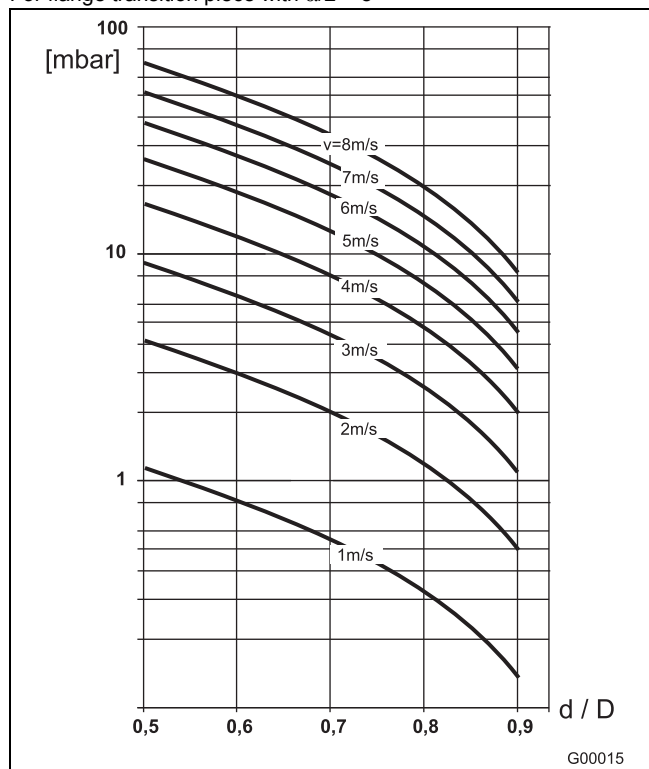

Fig. 28
- Determine the flow velocity based on the flow range nomograph (Fig. 28).
- Read the pressure drop on the Y-axis in Fig. 28.